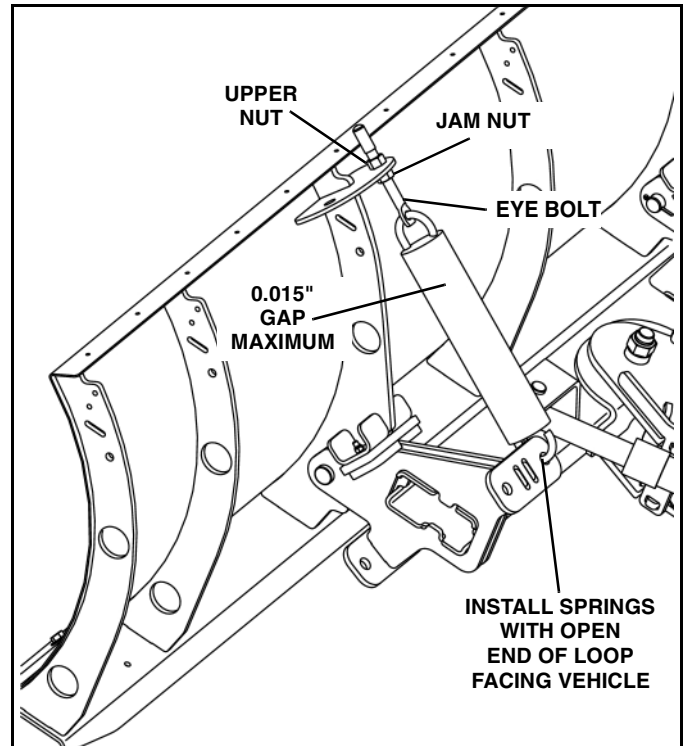

Figure 1-9
11. Rotate blade upward, and hook springs on to the swing frame spring eyelets. (See Figure 1-9).